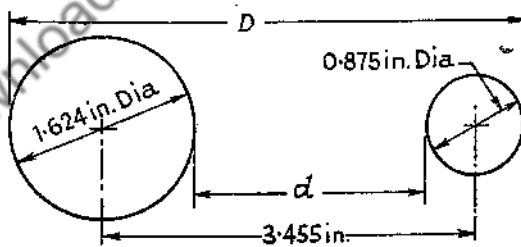

Fig. 5
(1) Calculate the dimensions  $D$  and  $d$  shown in fig. 5.